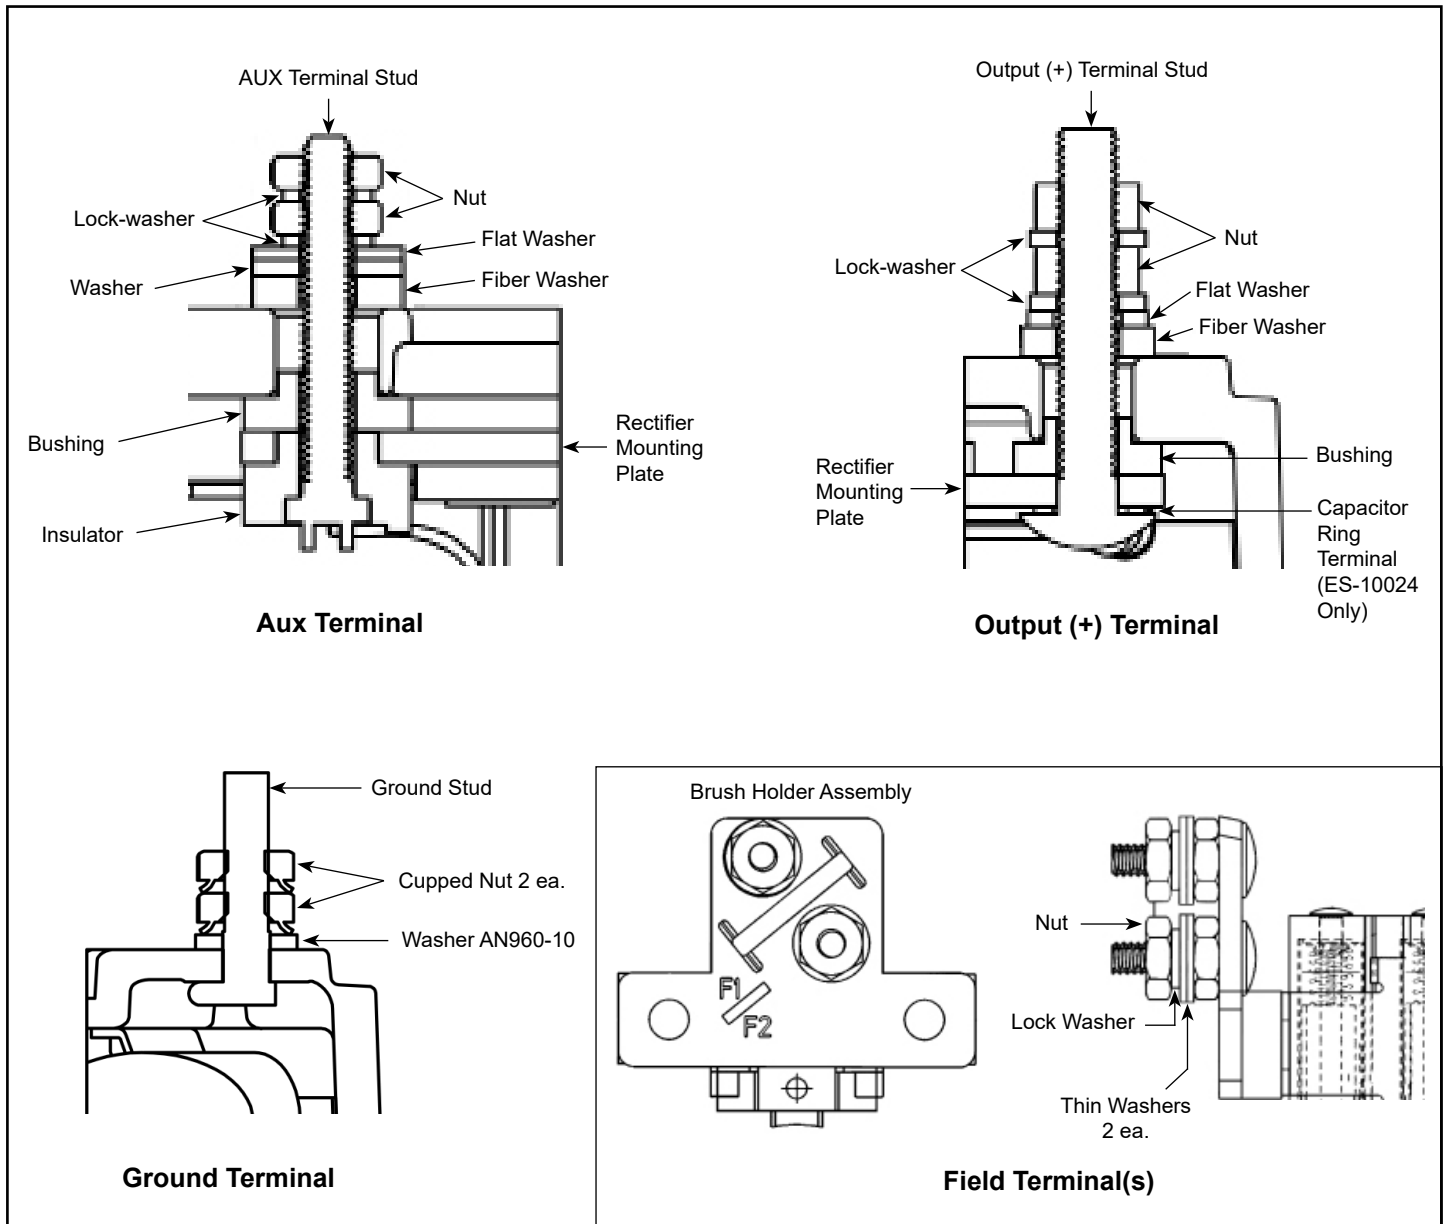

Figure 6.4 - AUX, Output, & Ground Terminal Stud Assembly
- (1) AUX Terminal: Using a thin 3/8 wrench, hold the bottom nut and loosen the top nut as shown in Figure 6.4 AUX Terminal. This is required to prevent the loss of the factory torque of the bottom nut. Remove and discard lockwasher. Nuts are HET P/N 8X-0173 & lockwasher is HET P/N 12X-0196.
- (2) Output Terminal: Using a thin 7/16 in. wrench, hold the bottom nut and loosen the top nut as shown in Figure 6.4 AUX Terminal. This is required to prevent the loss of factory torque of the bottom nut. Remove & discard lockwasher. Output nuts are HET P/N 8X-1063. Lockwashers are HET P/N 12X-0199.
- (3) Ground Terminal: Using a thin 3/8 in. wrench, hold the bottom cupped nut and loosen the top cupped nut shown in Fig. 6.4 Ground Terminal. This is required to prevent the loss of factory torque of bottom nut. Ground nuts are HET P/N 40298.
- (4) Field Terminal(s): Using a thin 5/16 in. wrench, hold the bottom nut and loosen the top nut as shown in Fig. 6.4 Field Terminal(s). This is required to prevent the loss of the factory torque of the bottom nut. Remove and discard lockwasher. Field nuts are HET P/N 8X-0140. Lockwashers are HET P/N 12X-0194.
- (1) AUX Terminal: Check bottom nut for a torque of 25 to 30 in-lbs (2.82-3.39 Nm). Place a new lockwasher, HET P/N 12X-0196 and the existing AUX nut, HET P/N 8X-0173 on the AUX stud. Using a thin 3/8 inch wrench, hold the bottom nut and tighten the top nut to a torque of 25 to 30 in-lbs (2.82-3.39 Nm). Refer to Figure 6.4 AUX terminal.
- (2) Output Terminal: Check bottom nut for a torque of 70 to 85 in-lbs (7.91-9.60 Nm). Place new lockwasher, HET P/N 12X-0199 and the existing Output nut, HET P/N 8X-1063 on the Output stud. Using a thin 7/16 (.4375) wrench, hold the bottom nut and tighten the top nut to a torque of 70 to 85 in-lbs (7.91-9.60 Nm). Refer to Figure 6.4 Output terminal.
- (3) Ground Terminal: Check bottom nut for a torque of 25 to 30 in-lbs (2.82-3.39 Nm). Place existing Ground cupped nut, HET P/N 40298 on the Ground stud. Using a thin 3/8 inch wrench, hold the bottom cupped nut and tighten the top cupped nut to a torque of 25 to 30 in-lbs (2.82-3.39 Nm). Refer to Figure 6.4, Ground Terminal.
- (4) Field Terminal(s): Check bottom nut for a torque of 12 to 15 in-lbs (1.36-1.69 Nm). Place new lockwasher, HET P/N 12X-0194 and the existing Field nut, HET P/N 8X-0140 on the Field stud. Using a thin 5/16 in. wrench, hold the bottom nut and tighten the top nut to a torque of 6 to 8 in-lbs (0.68-0.90 Nm). Refer to Figure 6.4, Field Terminal.